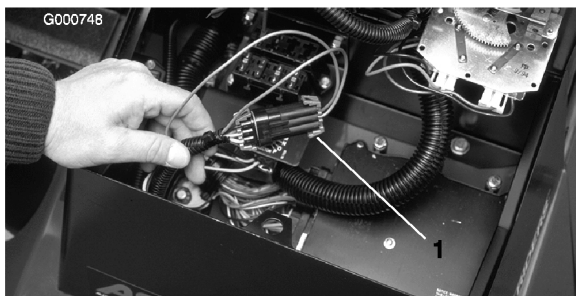

Figure 26
2. Open control panel cover. Locate wire harness and loopback connector. Carefully unplug loopback connector from harness connector (Figure 26).